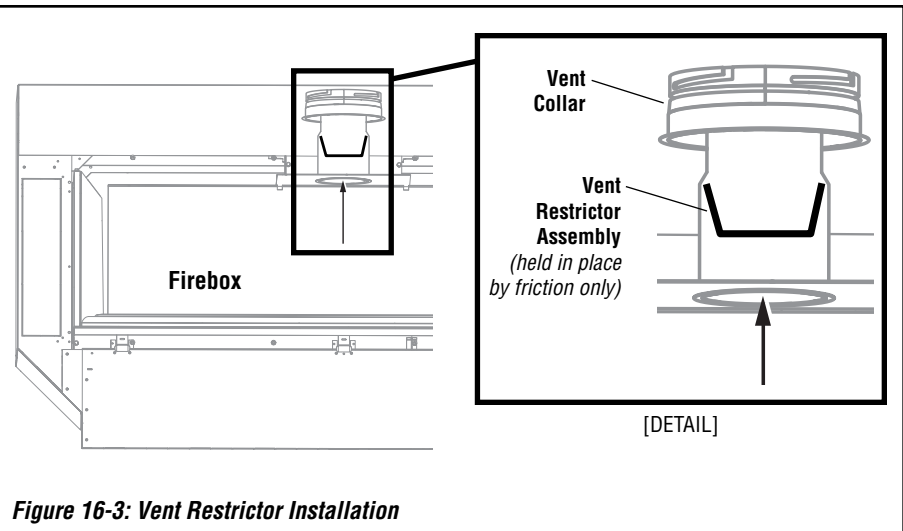

Figure 16-3: Vent Restrictor Installation
3. Install the vent restrictor assembly from inside the firebox. With the **flaps** on the **vent restrictor base** facing UP, carefully bend the flaps inward just enough to slide the assembly up into the **vent collar**, as shown in *Figure 16-3*.